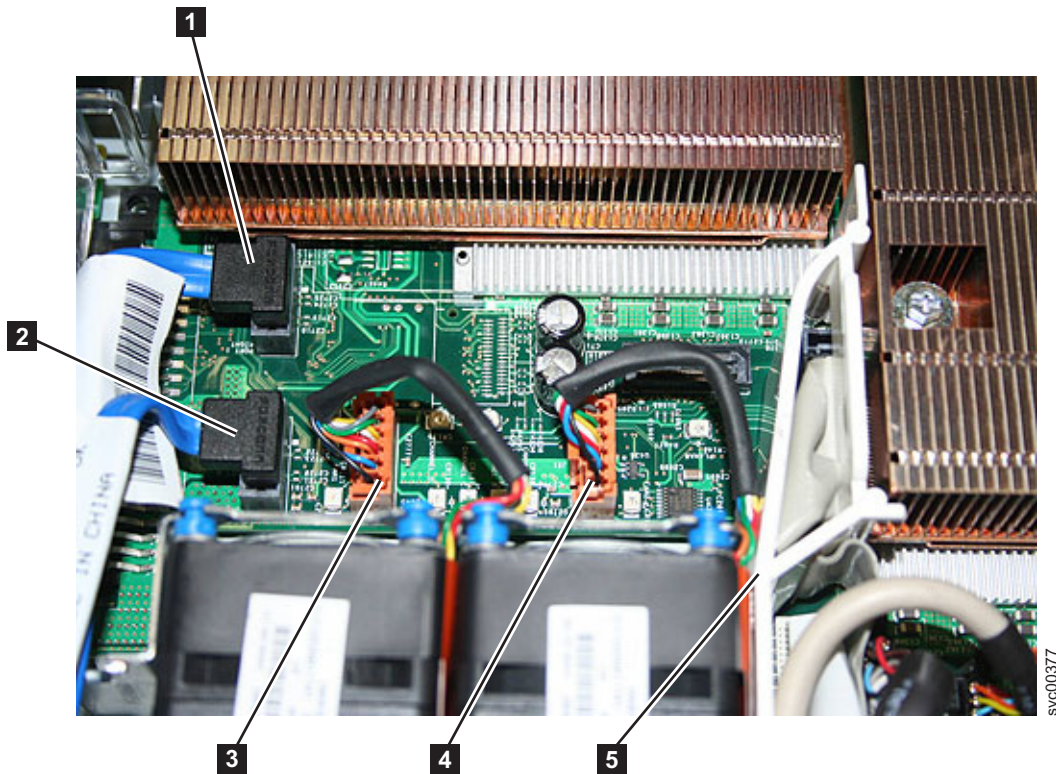

Figure 281. Connectors on the SAN Volume Controller 2145-8G4 system board
6. Disconnect the first set of cables from the system board, which are shown in Figure 281 on page 282. From the left front side of the system board, remove the following: